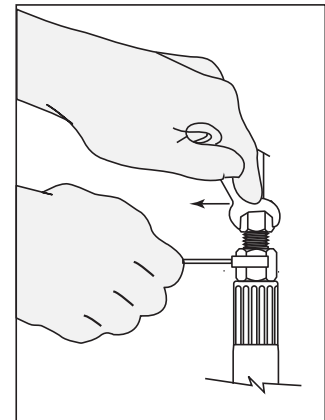

Fig. 16b
16.2 At the end of the water hammer absorber, connect the water supply tube, using the same type of fitting used on the water supply valve. Tighten the compression nut, without stripping, with two wrenches, one to hold the water hammer end, and one to turn the compression nut. Please see Fig. 16b.